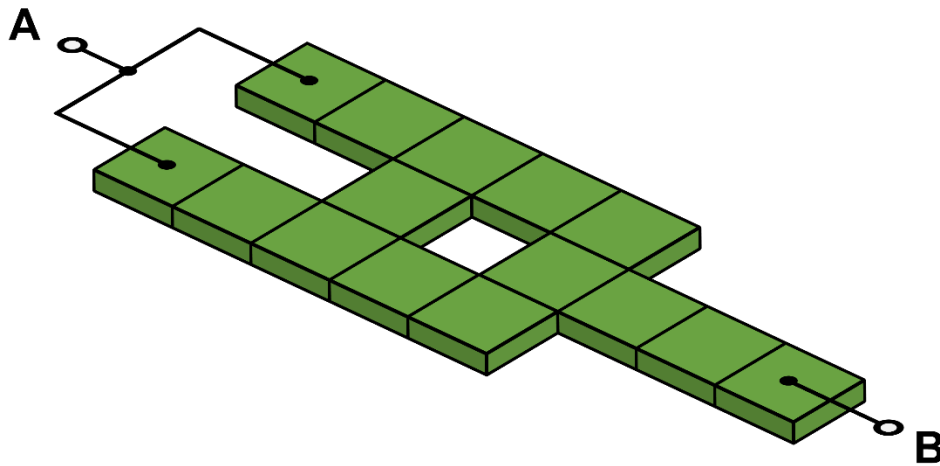

Figure PS2.3
- (c) Assuming a sheet resistance of $100 \Omega/\square$, what is the approximate resistance between points A and B shown in Fig. PS2.3 below? *Note: do not spend too much time on this problem, an accuracy of $\pm 20\%$ is fine.*